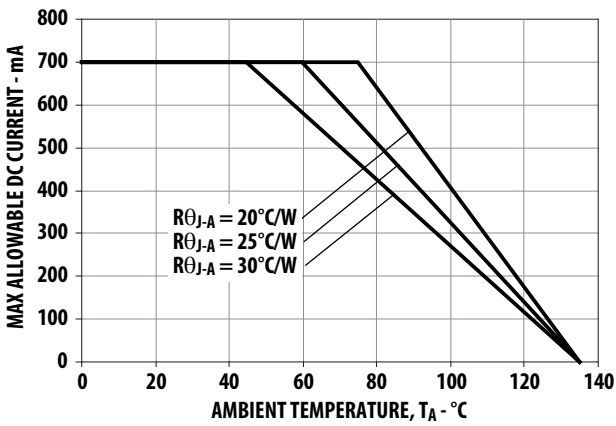

Figure 11. Maximum Forward Current vs. Ambient Temperature. Derated based on TJMAX = 135°C, RθJ-A = 20°C/W, 25°C/W and 30°C/W
1. Derate linearly based on Figure 11.